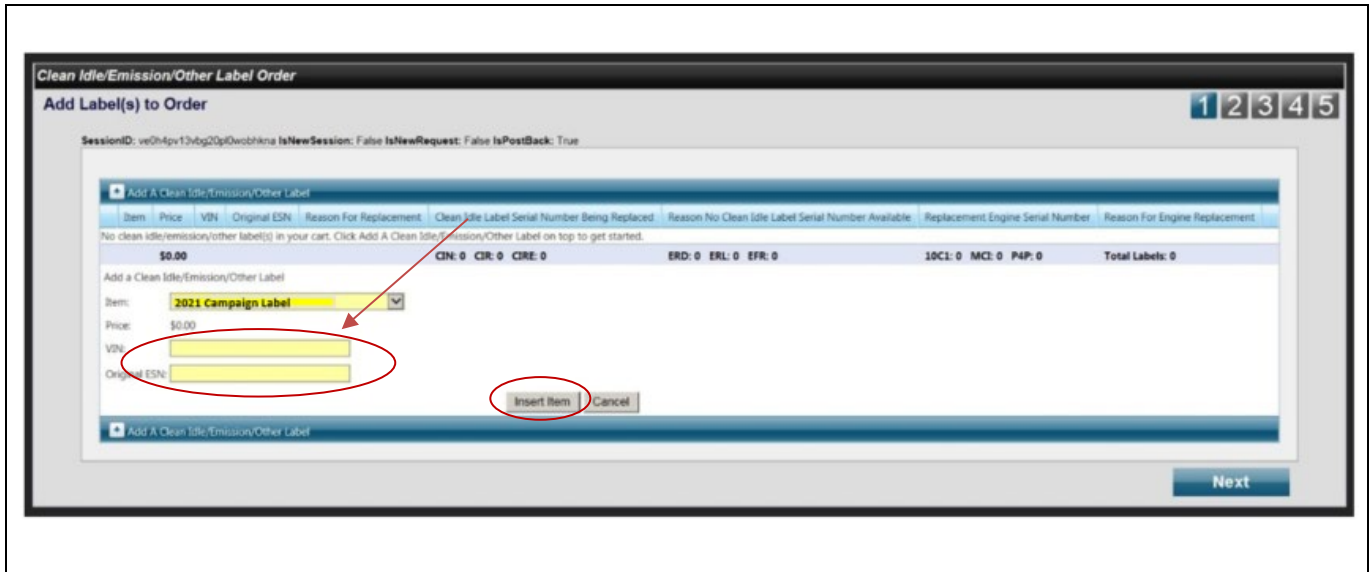

Fig. 12, Emission Label Ordering Process
4. Complete the “VIN” and “Original ESN” fields and select “Insert Item.” See Figure 12.